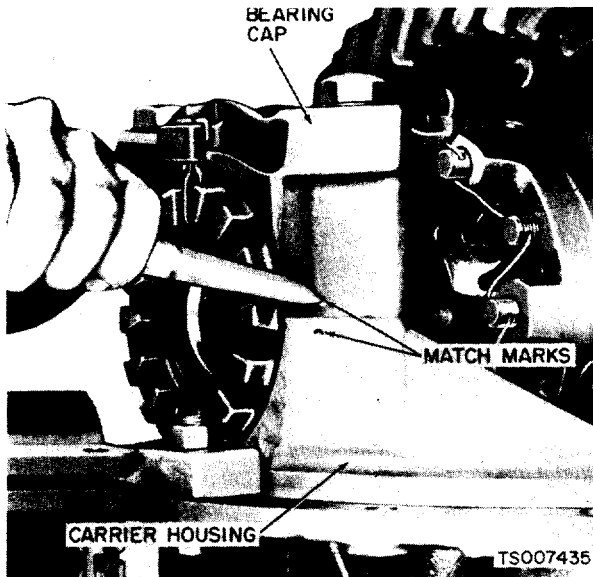

Figure 10-7. Match Marking.
(1) Match mark differential bearing caps and housing as shown in figure 10-7 prior to removal.